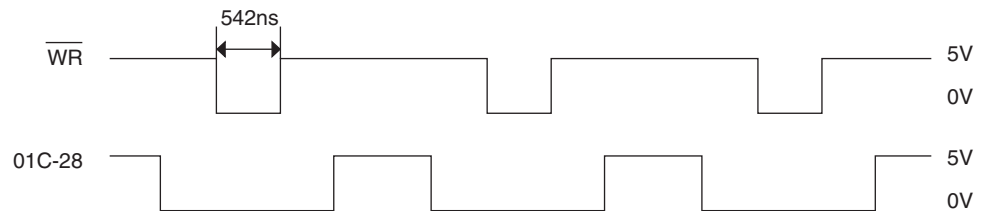

Figure B-3-5
- Yes Are \overline{WR} , and BUS signals of 01C pin 28 as specified in Figure B-3-5?
- Yes Is 10 pin of 04C identical to \overline{WR} signal in Figure B-3-5?